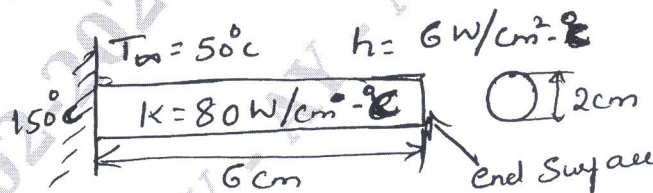

Fig Q10(a)
- 10 a. Find the temperature distribution in one dimensional fin shown in Fig Q10(a)